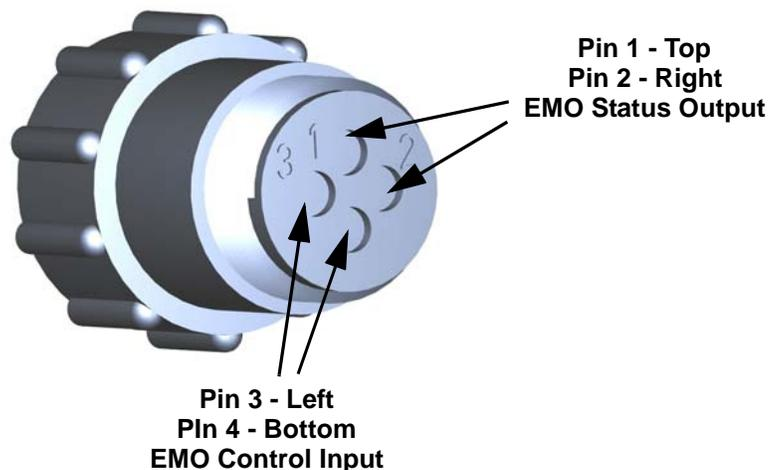

Figure 12-4: J11 Remote EMO Connector - Wire Side View
- Insert the conductor male terminals into the wire side of the connector. See Figure 12-4.